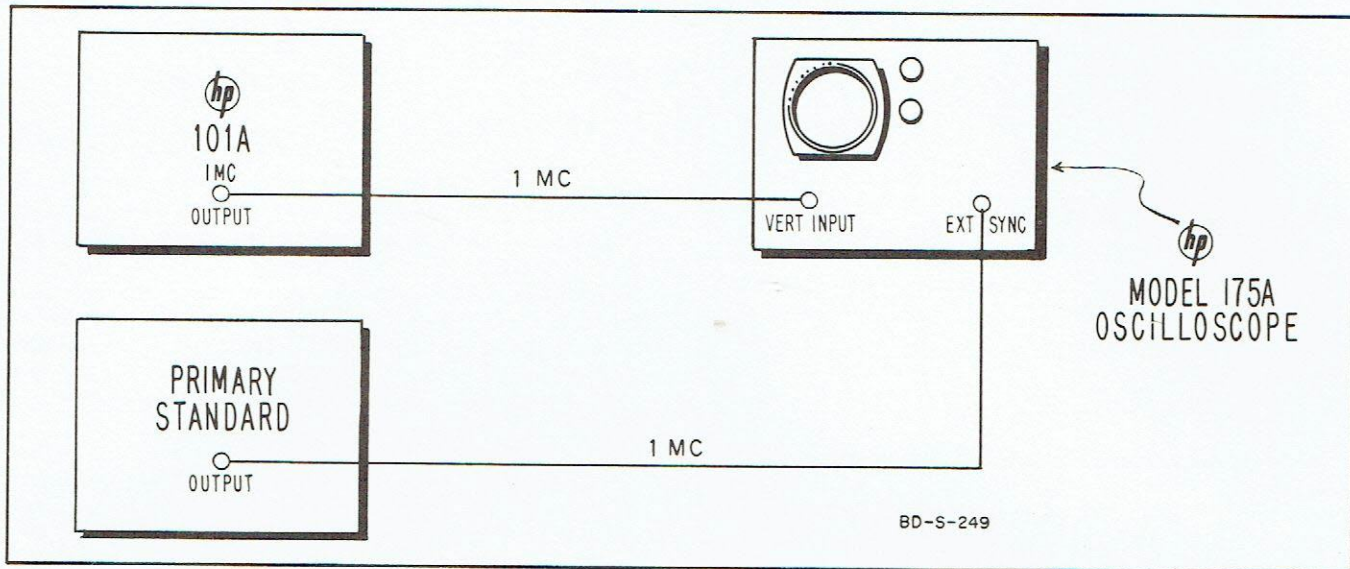

Figure 3-6. Setup for Checking Oscillator Frequency with a Local Standard using Oscilloscope Triggered Sweep Technique
a. Connect Model 101A and primary standard to oscilloscope as shown in figure 3-6.